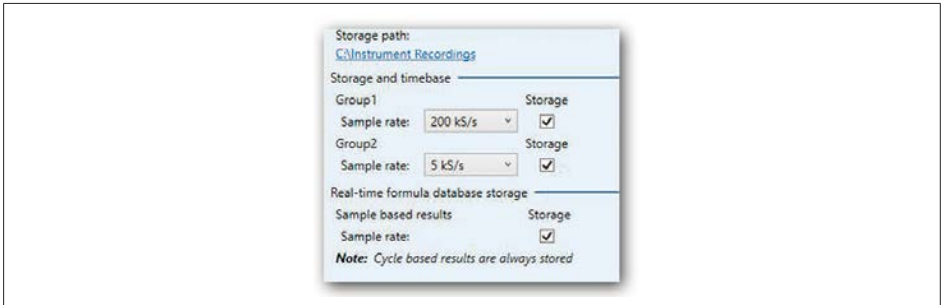

Fig. 9.18 Storage and timebase
- C Data for Group1 is recorded at 200 kS/s and stored, for Group 2 at 5 kS/s and also stored (see Fig. 9.18).